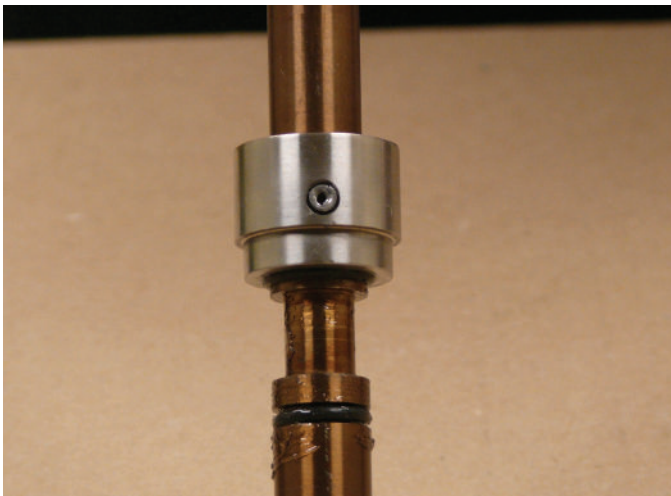

Figure 9-18 O-ring Sleeve and Spirol Pin
1. Carefully remove spirol pin (Item 4). Slide back O-ring sleeve (Item 2) on shaft. (Figure 9-18)